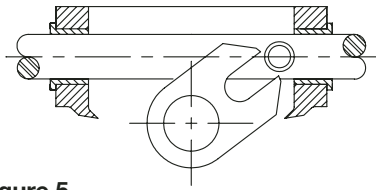
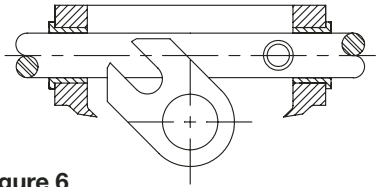

Figure 5
Figure 6
- Remove piston bolts (33) and pistons (25).
- Remove adaptor (26) and piston rod seals (29).
- Remove nameplate (18), pointer (16) and position indicator (13).
- Disengage yoke (2) from roller bearing assembly by pulling piston rod to extreme right, as in figure 5, and swing yoke mechanism clear of roller bearing as in figure 6.